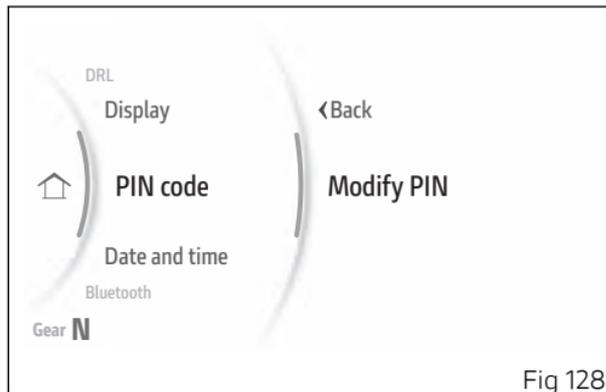

Fig 128
- From the Interactive Menu, use buttons (1) and (2) to select the item "Setting menu" and press ENTER (3).
- Select the "PIN Code" item and press ENTER (3).
- Select the "Modify PIN" item (Fig 128) and press ENTER (3).